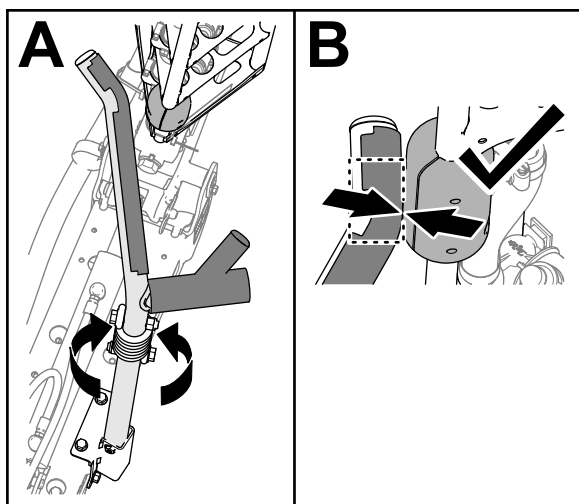

Figure 117
4. Rotate the cradle assembly until the bend in the cradle tube aligns with the slide block on the top tube of the outer boom (Figure 117)
Note: The blocks must contact the cradle at the bend in the upper cradle tube (Figure 117).